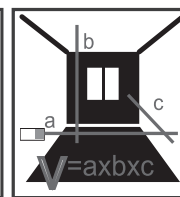

Fig. 10
- Volume measurement: Figure 10.